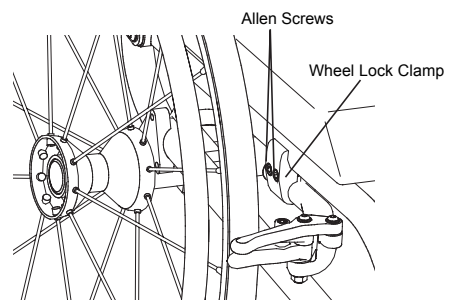

Figure 101
1. Loosen the two Allen Screws in the wheel lock clamp. See Figure 101.
1. Loosen the two Allen Screws that secure the wheel lock clamp to the frame. See Figure 101.